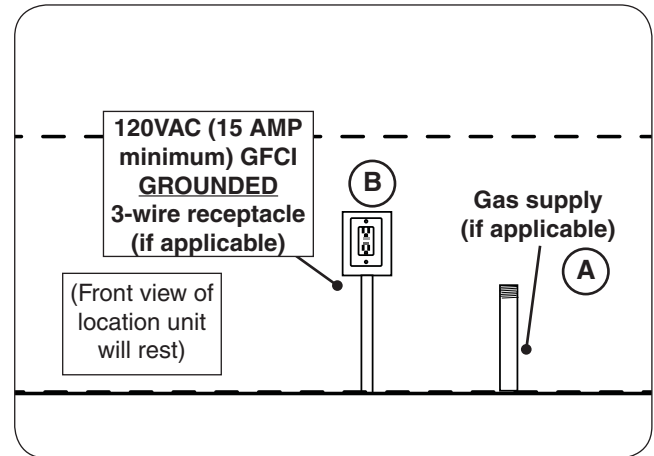

Fig. 16-1 Route gas and electrical (as applicable)
1. Route the gas supply into the area that the unit will rest over (see Fig. 16-1, A).
1. Wire the receptacle into the area that the unit will rest over (see Fig 16-1, B).